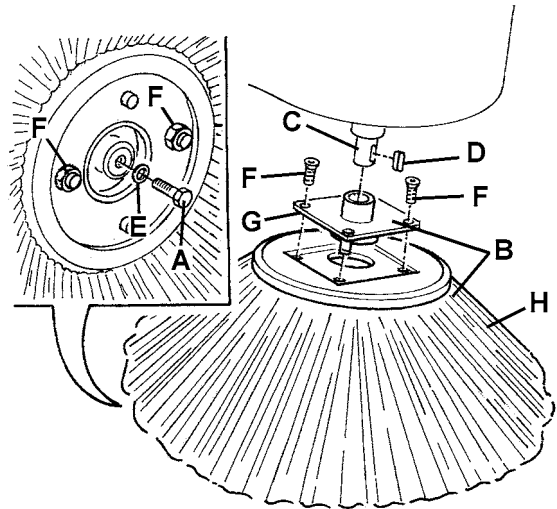

Figure 11
1. Drive the machine on a level ground and engage the parking brake with the pedal (84) and the lever (76).
2. Turn the ignition key (68) to "0".
3. Lift the side broom which has to be removed, with the lever (71) or (72).
4. Inside the side broom, loosen the screw (A, Fig. 11) and then remove the side broom with the hub (B) by disengaging it from the shaft (C). Recover the key (D) and the washer (E).
5. At the workbench, remove the two screws (F, Fig. 11) and separate the broom (H) from the hub (G).
6. Install the new side broom (H, Fig. 11) onto the hub (G), and tighten the screws (F).
7. Install the key (D), then install the new side broom with the hub (B, Fig. 11). Install the washer (E) and tighten the screw (A).